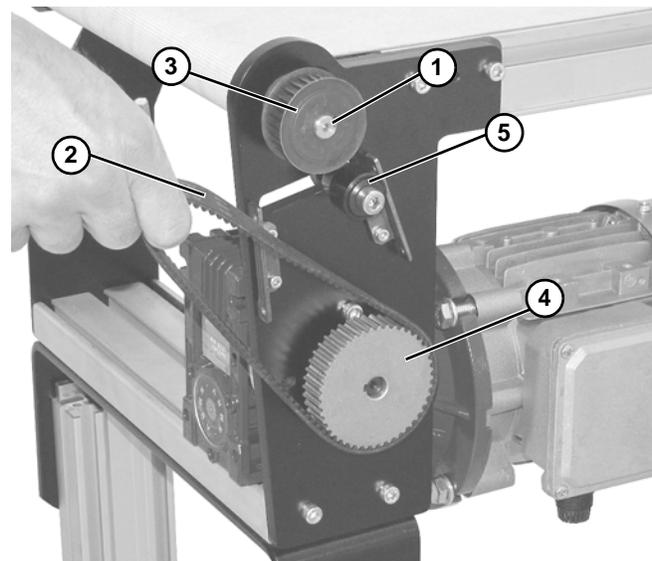
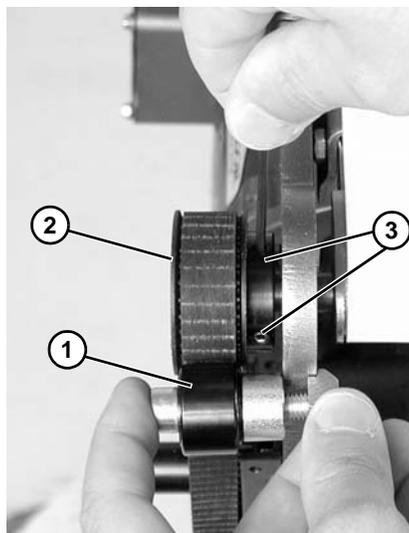
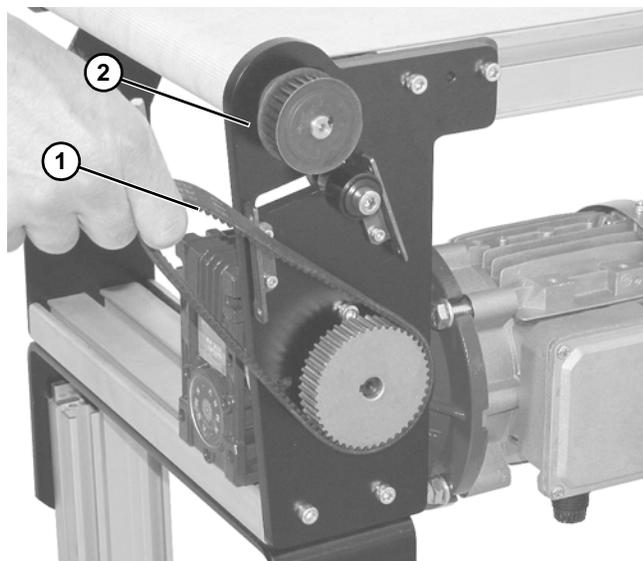

Figure 15
Figure 16
Figure 21
9. Install key onto top shaft (Figure 15, item 1).
10. Wrap timing belt (Figure 15, item 2) around driven pulley (Figure 15, item 3) and drive pulley (Figure 15, item 4). Install driven pulley (Figure 15, item 3) onto conveyor shaft.
11. Remove cam bearing and spacer (Figure 15, item 5). Place cam bearing and spacer (Figure 16, item 1) next to driven pulley (Figure 16, item 2). Ensure flanges of driven pulley are aligned with cam bearing. Tighten driven pulley set screws (Figure 16, item 3). This will allow for proper belt alignment while conveyor is in use. Install cam bearing and spacer (Figure 16, item 1).
3. Remove timing belt (**Figure 21, item 1**).
*If timing belt does not slide over pulley flange, loosen driven pulley (**Figure 21, item 2**) set screws and remove pulley with belt (**Figure 21, item 1**). For re-installation, see step 10 and **Figure 15** on page 13.*